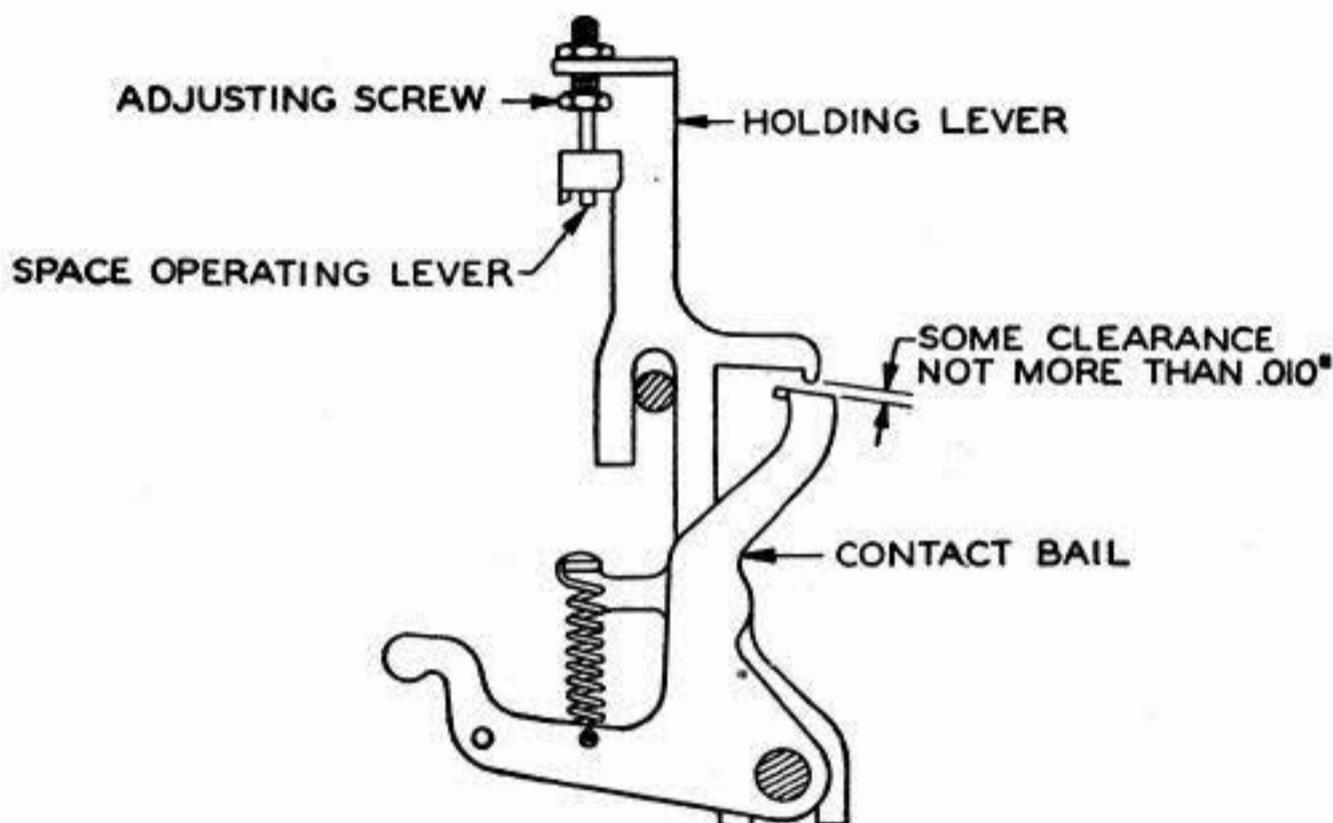

Fig 44
4.18 **Contact Holding Lever:** (BS6L) With the unit in the STOP position and the SPACE operating lever unlatched, there should be some clearance, not more than .010" between the top of the contact-operating bail and the lower surface of the contact-bail-holding lever. **Fig 44**
4.19 **Contact-Bail and Holding-Lever Spring:** (BS6L) With the unit in its STOP position and the SPACE operating lever resting against its backstop, place the push-end of an 8-oz scale on the lower projection of the holding lever. It should require Min 1-1/2 oz, Max 2-1/2 oz to just start the lever moving. **Fig 44**